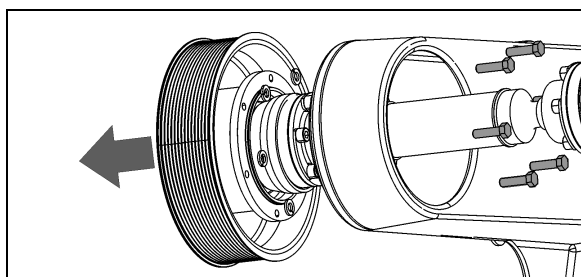

FIGURE 37: DISMOUNTING FAN DRIVE PULLEY 05123C
2. Dismount the fan drive pulley. Gain access to the 6 mounting bolts from behind the pulley, through the opening in the cast aluminum support (Figure 37).
3. Unscrew and remove the universal joint shaft mounting bolts (6) at the fan clutch.